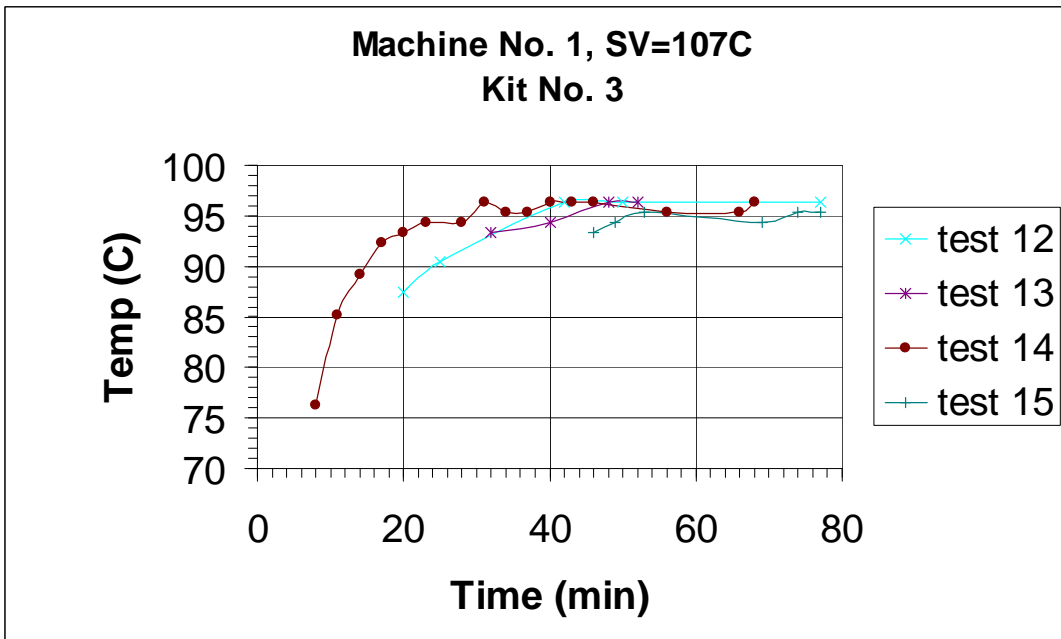

Figure 3
- 4) Test 15 in Figure 3 indicated that even after machine was powered up for 45 minutes, the first pull was still two degrees below the stabilized Tb. This indicates that a few blank pulls to flush the cold water in the grouphead are important.
- 7) The shot at 28 and 30 minutes in Test 14 of Figure 3 indicates that when two pulls were placed at 2-3 minutes interval, the Tb can be 1°C higher for the second pull even if the temperature on controller does not show an overshoot. That is because the heater is working hard between the shots; sometime it can make the water over heat a little bit. In contrast, the shots